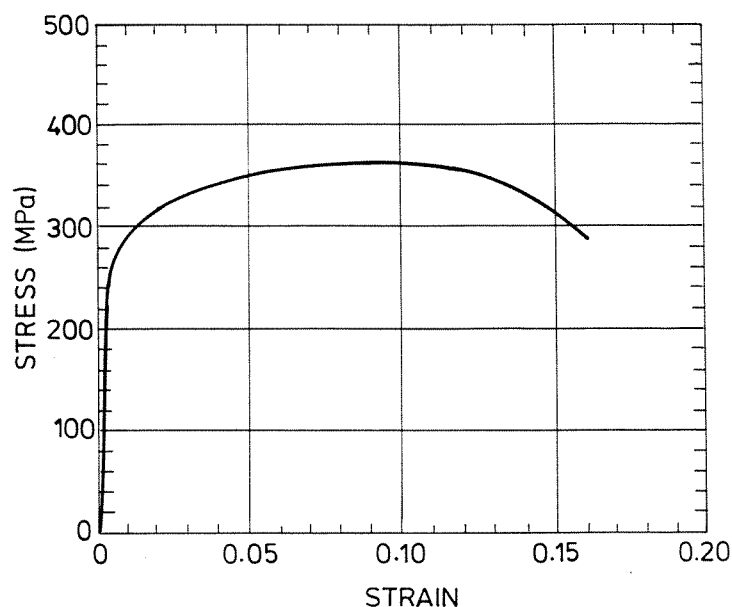

Fig. 6
(b) A tensile nominal stress - strain curve for an aluminium alloy tested at room temperature is shown in Fig. 6.
**A separate copy of Fig. 6 is provided, and should be handed in with your answer.**
(i) Evaluate the 0.5% proof stress and the tensile strength for this alloy, and indicate these on Fig. 6.
(ii) Convert the curve to a true stress-strain curve as far as the tensile strength of the alloy, and plot this on Fig. 6.